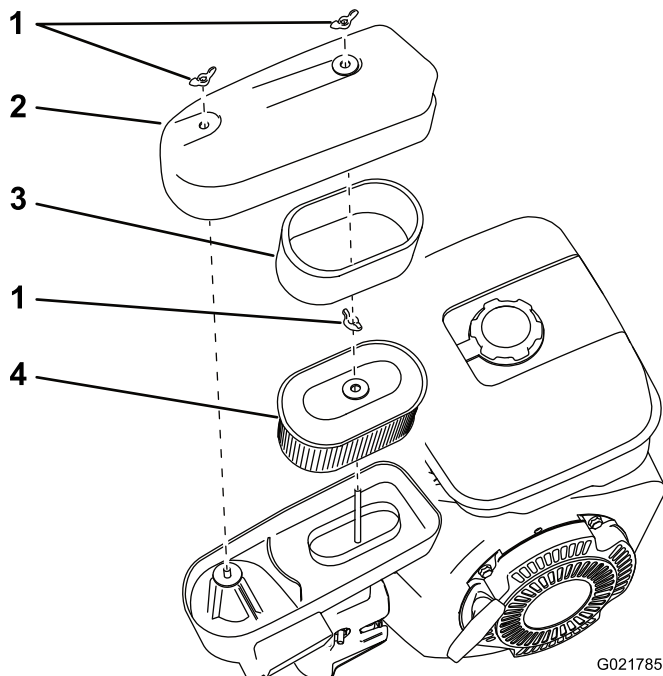

Figure 18
3. Remove the wing nuts that secure the cover (Figure 18).
6. Remove the foam and paper elements from the base (Figure 18).
7. Remove the foam element from the paper element (Figure 18).